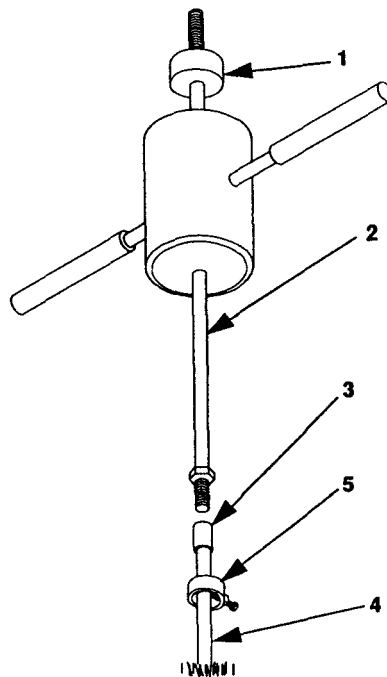

Figure 2-15. Remove Ground Rod.
- (1) Refer to figure 2-15 and position slide hammer above ground rod coupling (3). Invert slide hammer so that end having impact disk (1) is up. Connect slide hammer rod (2) to ground rod coupling (3). Tighten so that end of rod (2) makes firm contact with end of ground rod section (4) inside coupling (3).